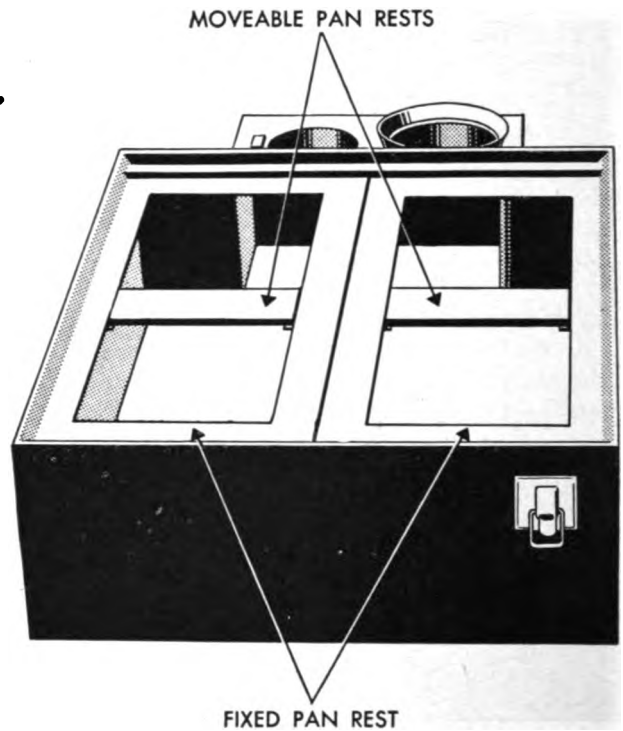
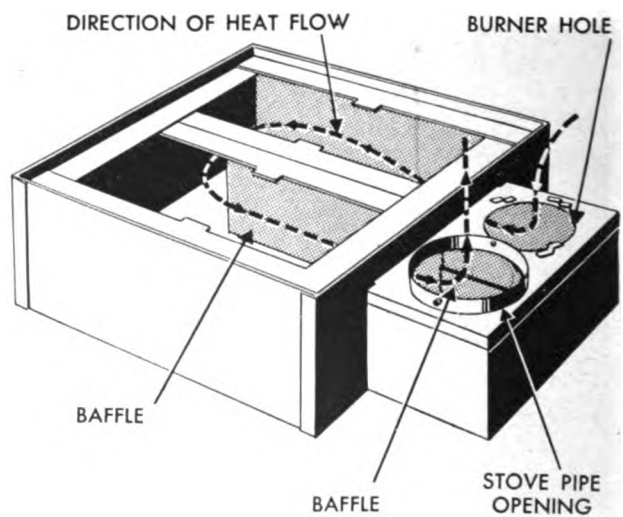
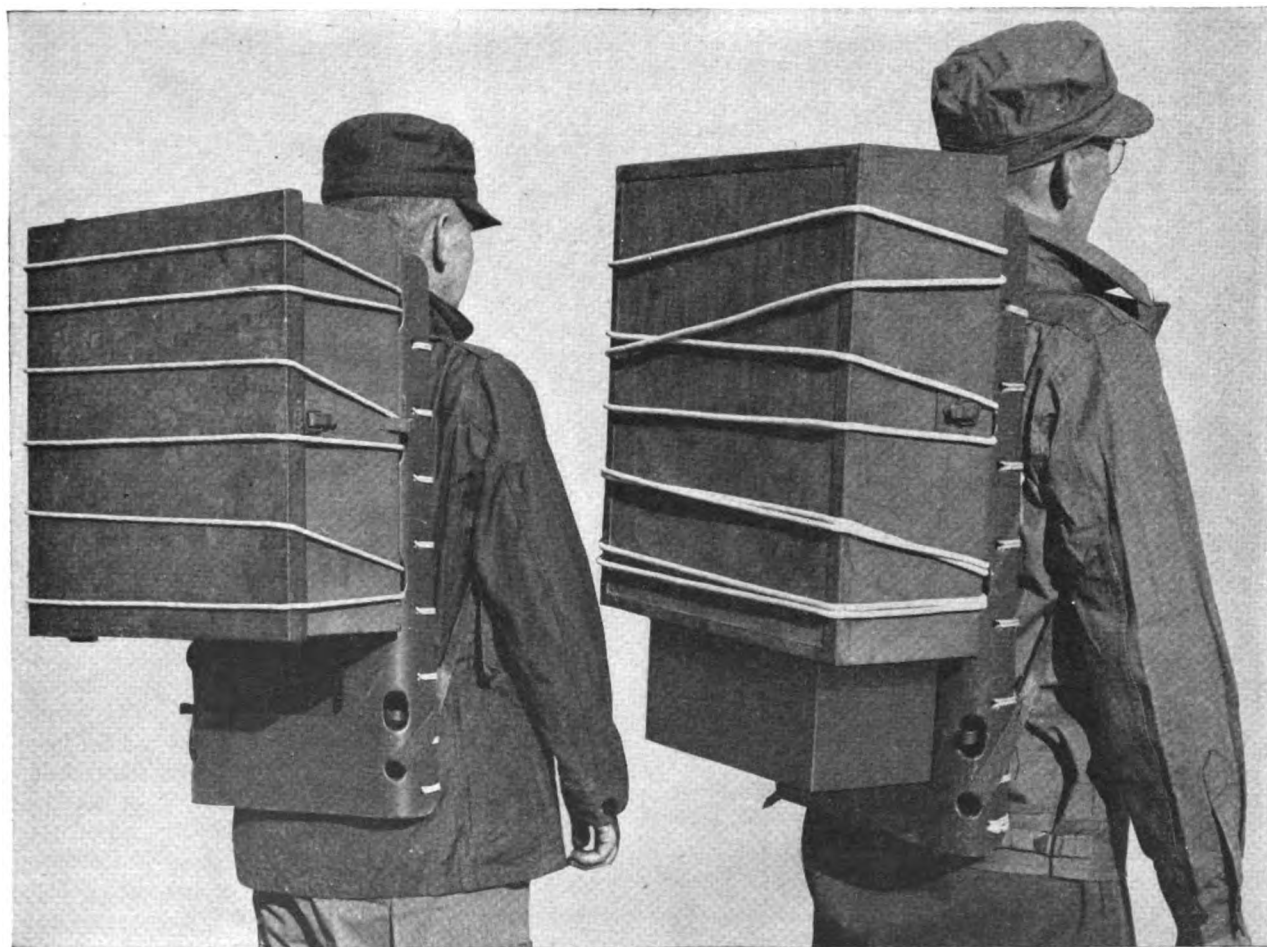

Figure 24. *Outfit, cooking, small detachment, top view.*
Figure 25. *Stove, outfit, cooking, small detachment top view, showing heat flow.*
Figure 26. Outfit, cooking, small detachment, assembled for packboard transport.
b. The lower (burner) section of the stove is well insulated on bottom and sides. A central baffle plate causes the heat to circulate throughout the stove. (See fig. 25.) The upper section consists of a windshield and a cover which locks to it. When the stove is carried on a packboard, this cover locks over the lower section.
(4) Before shifting pots or pans, or removing them from the stove, raise the baffle between the burner and the stack (see fig. 25) and reduce the flow of fuel to a very slow drip, to avoid danger of flash heat.
(5) To conserve heat and speed up cooking, keep the pots covered as much as possible and let windshield cover rest on the raised pot handles.
(6) To increase the uniformity of heating, it is often desirable to have a piece of sheet metal under the pots near the burner.
(7) Remove the pan rests (see fig. 24) when the long boilers are used, or the uneven heat will warp these pots.
(8) Use the sterilizer as a tub for washing utensils.
b. MAINTENANCE. (1) See paragraph 19*b*.
(2) See section III, appendix, for a list of parts for mechanical maintenance.
25. How to Pack (see fig. 26)